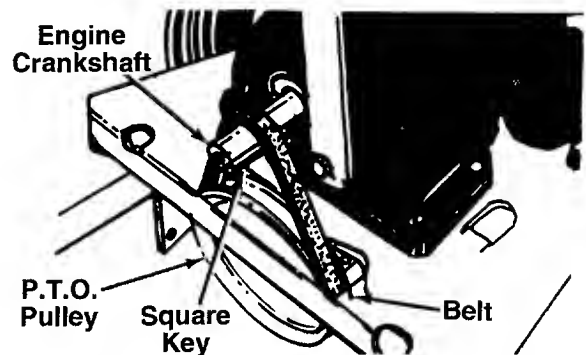

FIGURE 20.
5. Slide belt off the impeller pulley. Slide housing and impeller off engine crankshaft. Be careful not to lose square key. See figure 20.
7. Remove belt from P.T.O. pulley and install new belt. See figure 20.